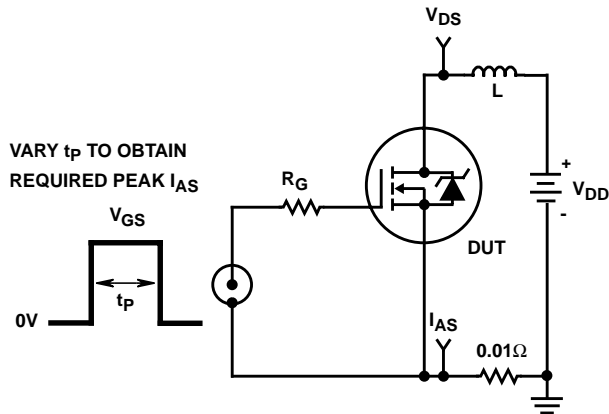

FIGURE 15. UNCLAMPED ENERGY TEST CIRCUIT
4.  $V_{DD} = 50\text{V}$ , starting  $T_J = 25^\circ\text{C}$ ,  $L = 31\text{mH}$ ,  $R_G = 25\Omega$ , peak  $I_{AS} = 3.3\text{A}$ . See Figures 15, 16.